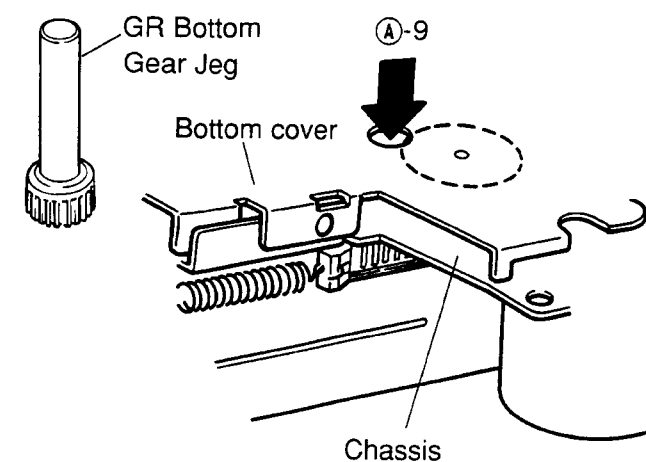

Figure 4
- (12) Since the hooks marked ③-8 will be lifted slightly as shown in Figure 4, insert the jig through the hole ③-9, and fix it turning the jig slightly in the direction ③-11. Instead of operation (12), turn the gear nose slowly with a precision screwdriver etc., taking care not to damage it. After 2 to 3 turns, it will click into place. (Refer to Figures 4 and 5.)
- (13) Fix the screws and the lock washer that have been removed.
- (14) Insert the jig into the hole ③-9 as shown in Figure 4 and rotate the eject solenoid counterclockwise about 20 times, pulling it in the direction ③-10 with the finger. Then the eject operation is completed. Instead of operation (14), the eject operation can be performed by mounting the mechanism to the product. (Refer to Figures 4 and 5.)